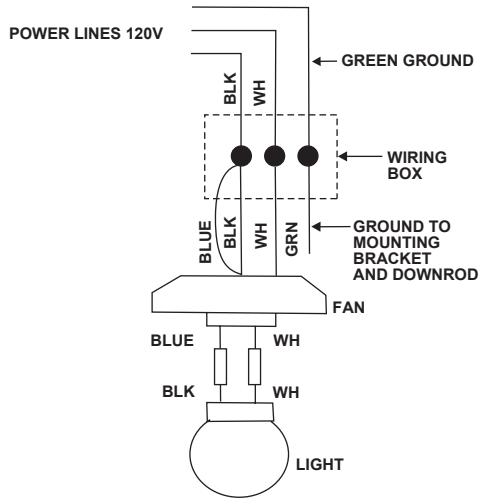

Figure 8
Step 1 Connect the fan supply (black) wire and light supply (blue) wire to the black household supply wire as shown in Figure 8.
Step 3 Connect green or bare copper wire from outlet box to the hanger bracket and downroll ball green ground wires together. (Figure 8)